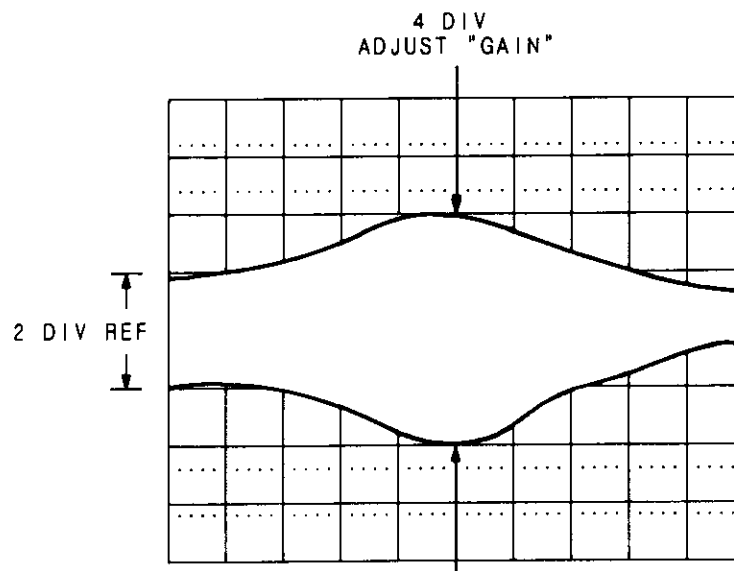
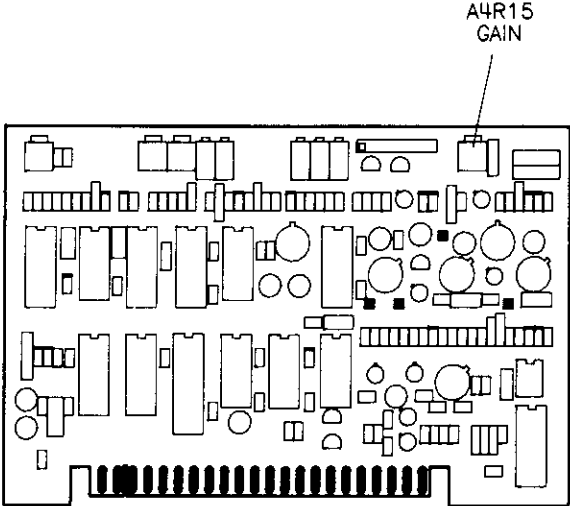

Figure 5-45. ALC Gain Adjusted Correctly (Worst Case)
Figure 5-46. ALC Gain Adjustment Location
5. Adjust the far left side of the modulated signal for 2 divisions peak- to-peak by using the CAL on the CHANNEL A knob. See Figure 5-45.
- 6. While monitoring Channel A, manually sweep the entire RF plug-in frequency range and adjust A4R15 (GAIN) for 4 divisions of peaking at the RF plug-in frequency where the highest gain peaking occurs. See Figure 5-45. Refer to Figure 5-46 for adjustment locations.